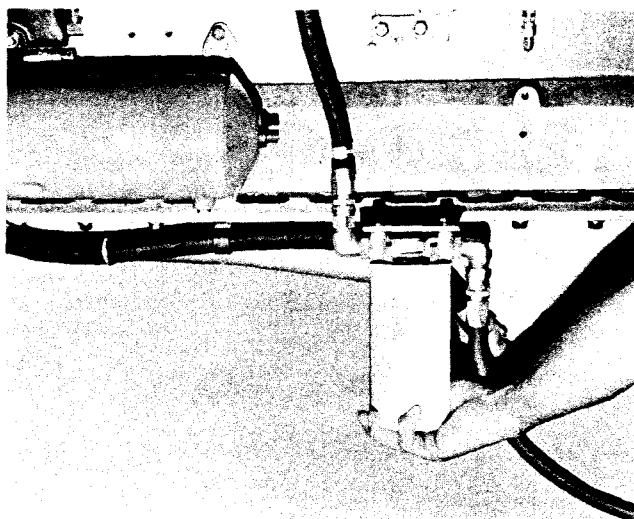

Fig. 5-13. Removing throw-away type fuel filter
1. Unscrew combination case and element; discard. Fig. 5-13.